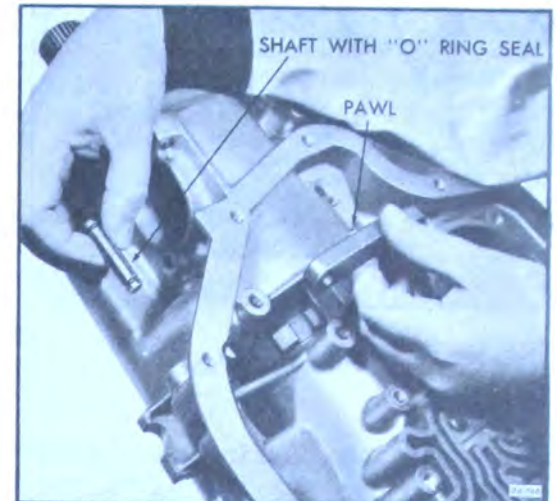

Figure 74-746
1. Install the parking pawl, tooth toward the inside case and parking pawl shaft. See Figure 74-746.